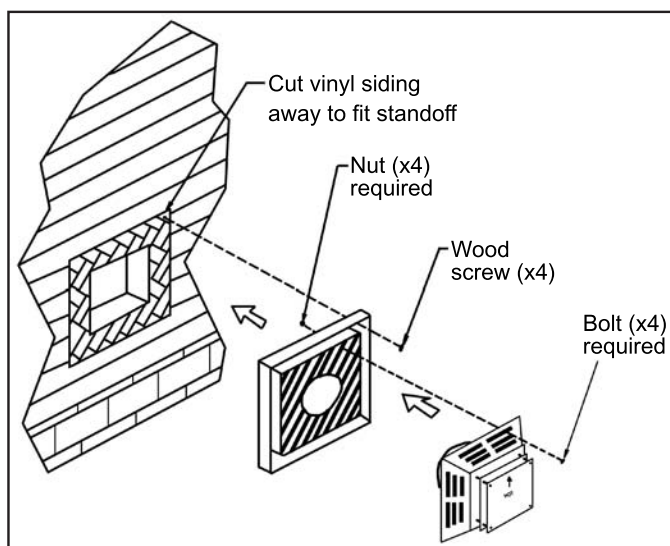
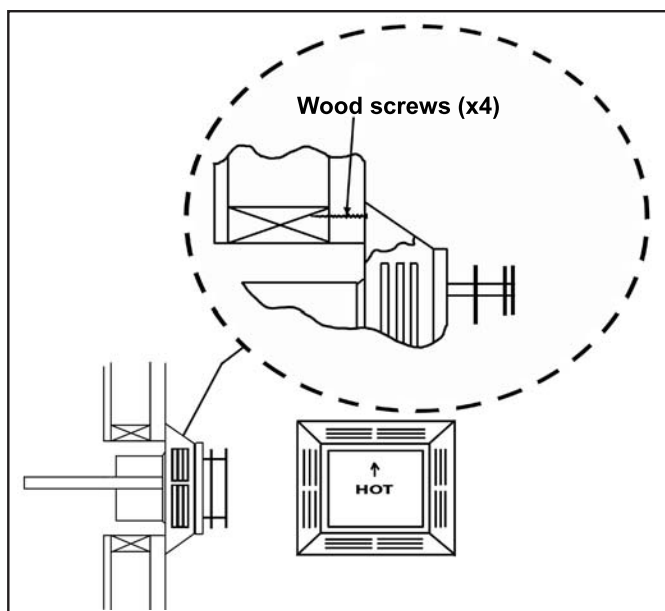

Figure 19: Installing Vent Cap with Vinyl Siding Stand-Off.
Figure 20: Installing Horizontal Vent Termination.
- (1) The four (4) wood screws provided should be replaced with the appropriate fasteners for stucco, brick, concrete, or other types of siding.
- (2) For buildings with vinyl siding, a vinyl siding standoff, should be installed between the vent cap and the exterior wall (see Figure 19). Attach the vinyl siding standoff to the horizontal termination. The vinyl siding standoff prevents excessive heat from possibly melting the vinyl siding material. Note that the horizontal vent termination bolts onto the flat portion of the vinyl siding standoff (shaded area in Figure 20), so that an air space will exist between the wall and the vent termination.